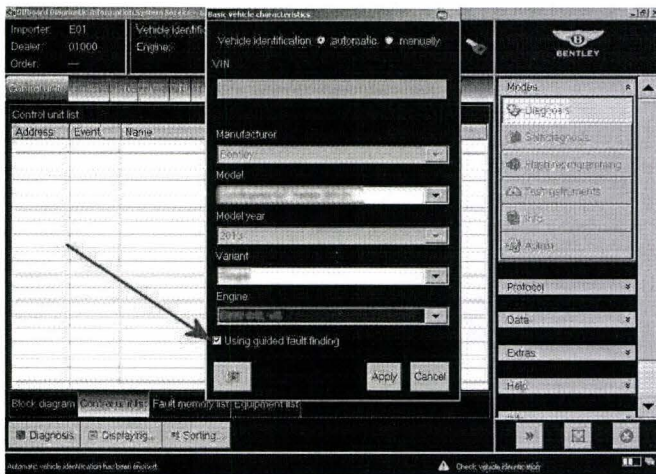

Figure 4
- Ensure the Using guided fault finding box is ticked (Figure 4) - follow all on screen prompts and allow the guided fault finding control module sweep to complete